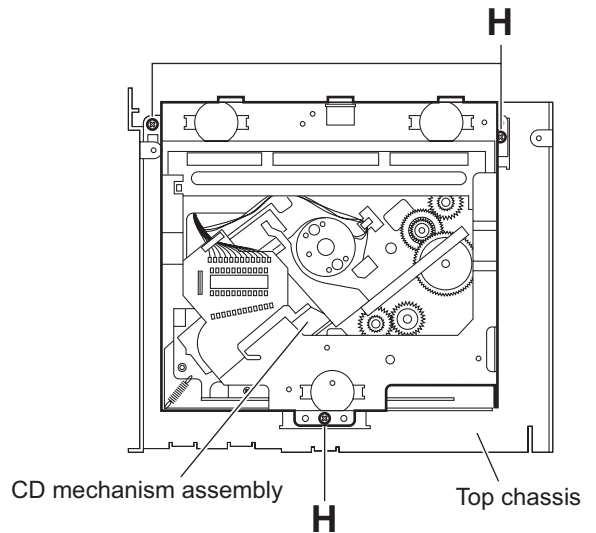

Fig.7
3.1.7 Removing the CD mechanism assembly (See Fig. 7)